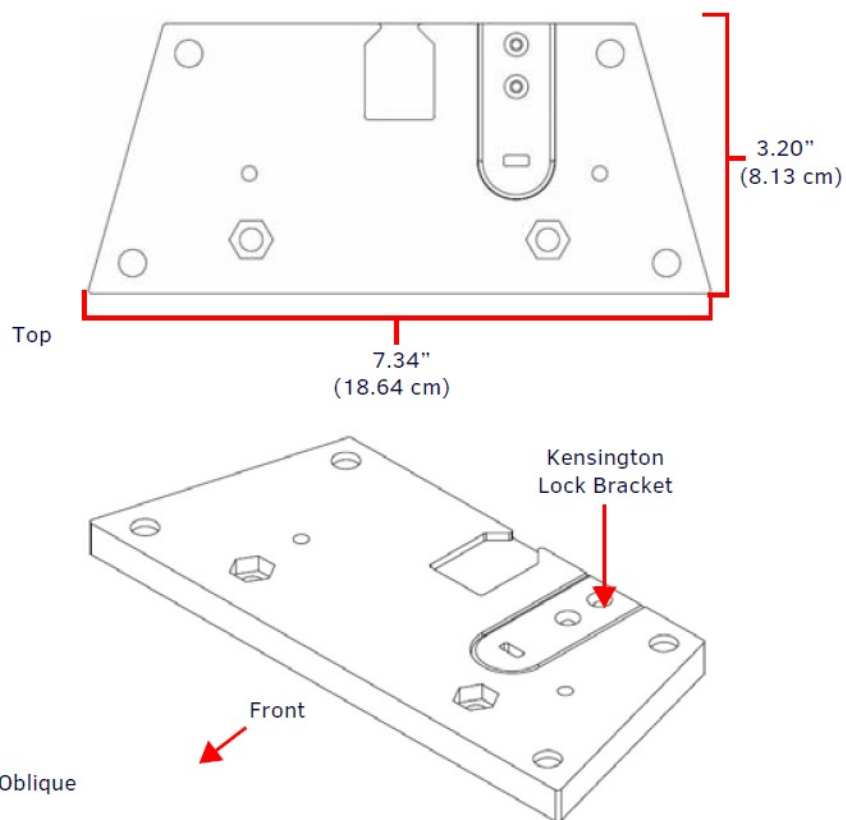

FIG. 1 MSA-STMK-07 SECURE TABLE MOUNT KIT
The MSA-STMK-07 Secure Table Mount Kit (FG2265-17) is a beautifully styled plate that, when attached to the Modero S MST-701 7" Tabletop Touch Panel (FG2265-06) and secured with the under-table tamper-resistant bolts, will make it virtually theftproof (FIG. 1). If drilling into the table is not feasible, the secure mounting plate can be attached to the touch panel (but not the table) and then secured with a Kensington® Lock. Both methods may be used simultaneously for extra security.
1. On the security mount base (FIG. 1), loosen the two screws holding the Kensington Lock bracket to the base